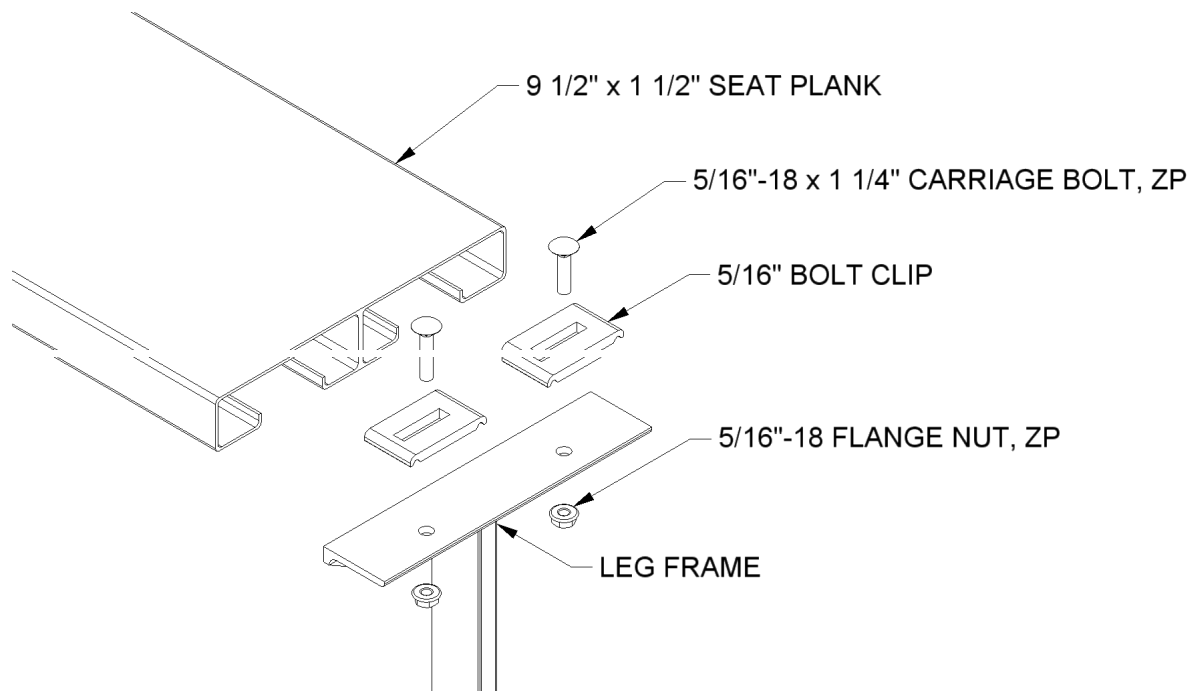
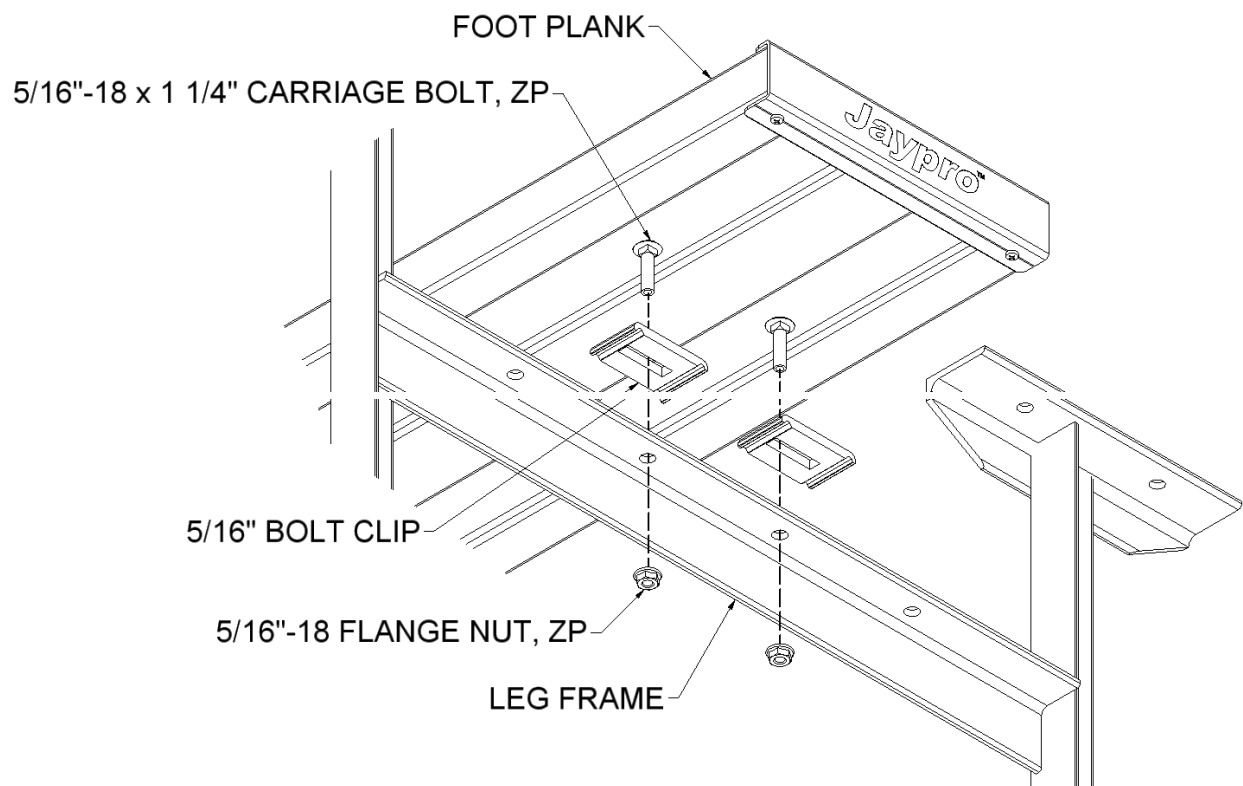
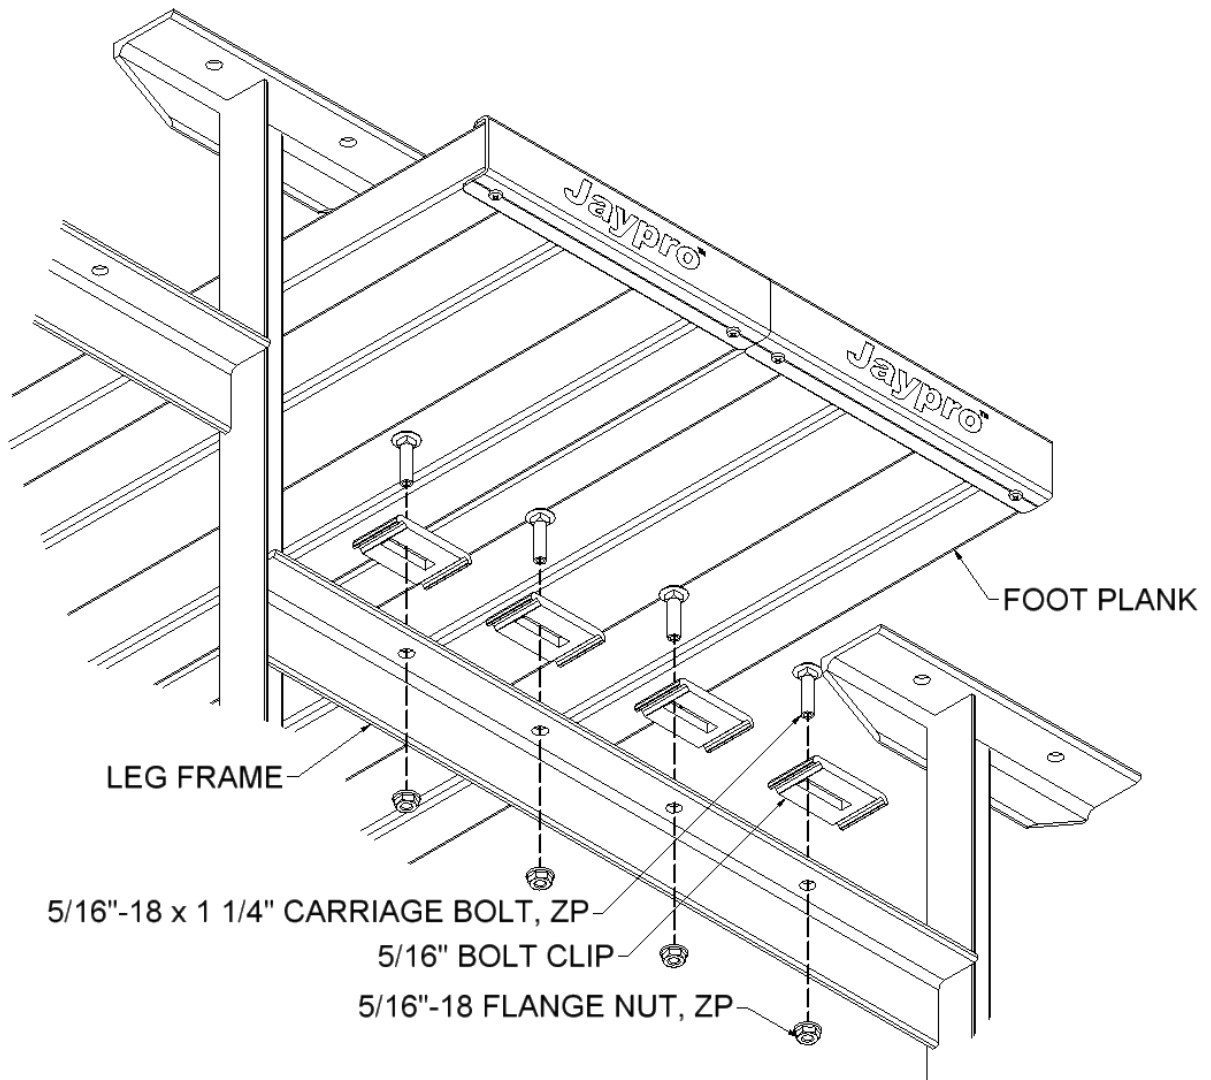

Figure 5
Figure 6 (SINGLE FOOT PLANK)
Figure 7 (DOUBLE FOOT PLANK)
5. Making sure the undercarriage frame is square and plumb, install the seat and foot planks. The seat and foot planks are best installed starting from the front seat and working towards the back. Use the hardware and bolt clip as shown in figure 5. Position planks so they are centered on the frame, with equal amount of overhang on each end. Note that standard bleachers (BLCH-421AL & BLCH-421TRG) have a single foot plank, which is centered on the support frame, see figure 6. Preferred bleachers (BLDP-421AL & BLDP-421TRG) have double foot planks and are installed as shown in figure 7.